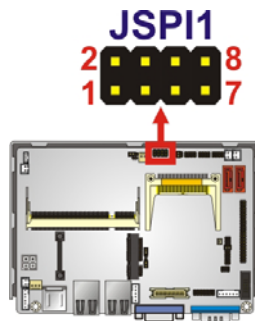

Figure 3-21: SPI Flash Connector Location
- CN Location:** See Figure 3-21